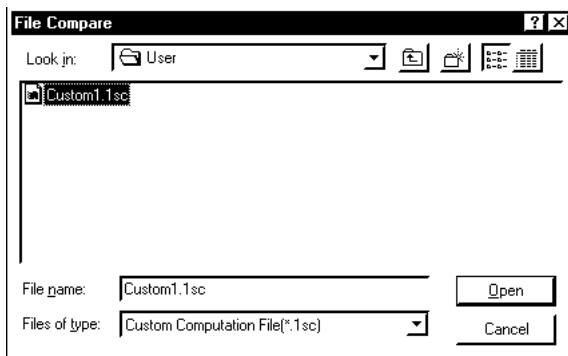

Figure 7.3.4 [File Compare] Dialog Box
- ① From the tool menus, choose <File>, then <Compare...>. The [File Compare] dialog box (Figure 7.3.4) appears.
- ③ Click the <Open> button. A message appears, asking whether a comparison should be made.
- ④ If you click <Yes>, the LL1200 tool begins comparing data values.